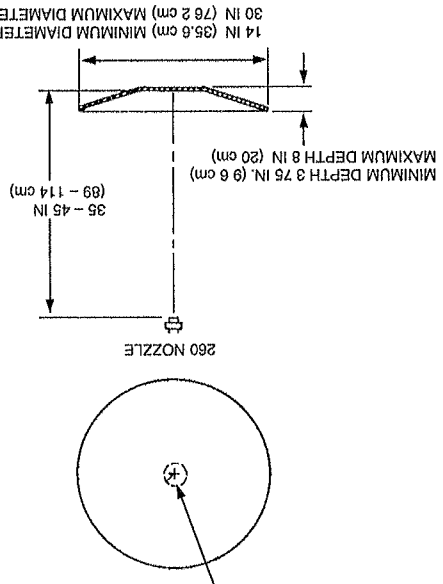

FIGURE 64
1. A 260 nozzle, Part No. 419341, will protect a wok 14 in (36 cm) minimum diameter up to 30 in. (76 cm) maximum diameter. The wok depth must be no less than 3.75 in. (9.5 cm) and no greater than 8 in. (20 cm). The nozzle tip is stamped with 260 indicating that this is a two-flow nozzle and must be counted as two flow numbers. When using this nozzle, the nozzle must be positioned as shown in Figure 64.